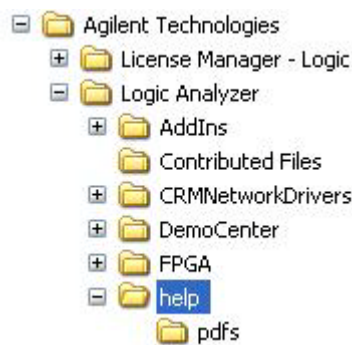

Figure 13 Location of U4154A Documents
- **Agilent Logic Analyzer Online Help** - This online help is accessible as a standalone help from the help folder displayed in the Figure 13 or from the Agilent Logic Analyzer GUI (as an integrated help). It describes how to configure, control, and use the U4154A hardware to perform testing in various scenarios.